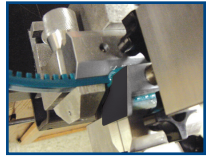

Fig. 4
10. Turn large wing nut clockwise, moving it forward until both overlapping surfaces contact the coated heating element. Continue turning large wing nut slowly as belt ends melt and material is squeezed out of weld area. Continue turning large wing nut until it stops. Do not over tighten. See Fig. 4.